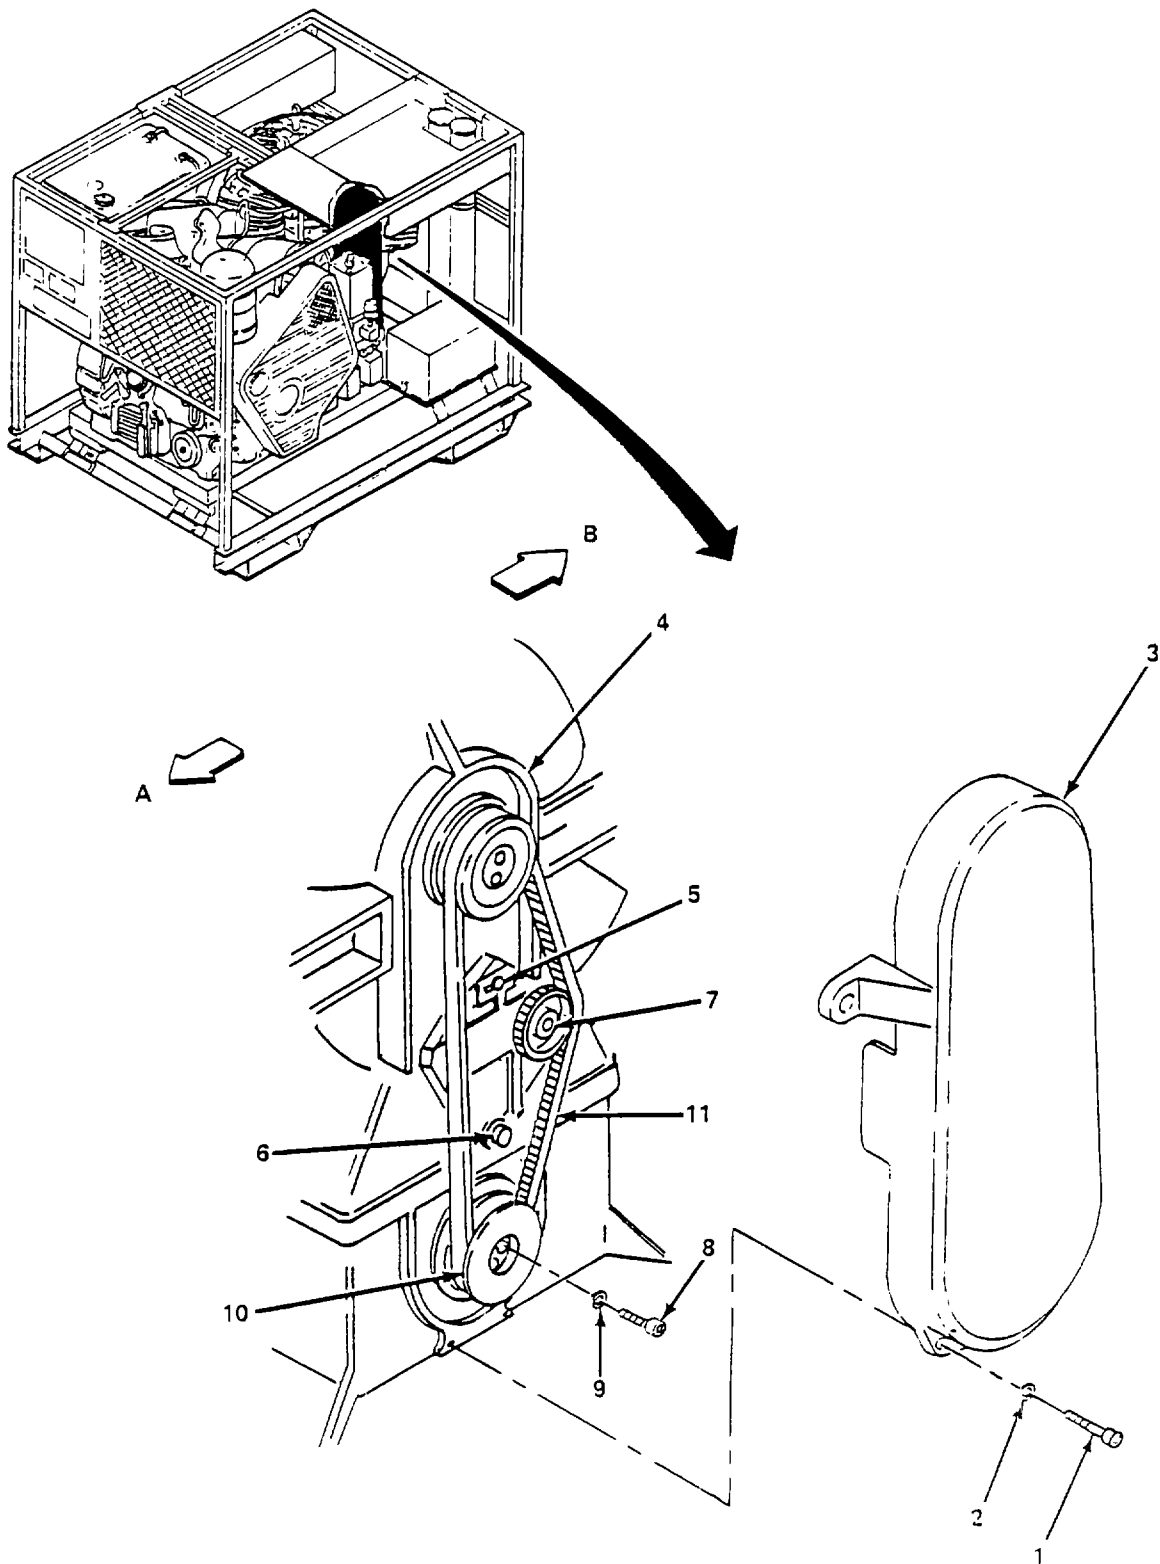

Figure 4-30. Compressor Drive Belt and Guard, Replace.
4-25. **Compressor Drive Belt and Guard (Cont).**b. Replace.(1) *Beltguard.* (figure 4-30)
- (a) Remove four alien screws (1) and lockwashers (2).
- (b) Remove beltguard (3) from compressor (4).
- (c) Install beltguard (3) and secure with four alien head screws (1) and lockwashers (2).
(2) *Belt.* (figure 4-30)
- (a) Remove beltguard (para. (1) above). I'
- (b) Loosen alien screws (5) and (6) and push the middle tension pulley (7) in the direction of arrow A.
- (c) Remove two alien screws (8) and lockwashers (9) from eccentric shaft drive gear (10).
- (d) Remove eccentric shaft drive gear (10) and belt (11).